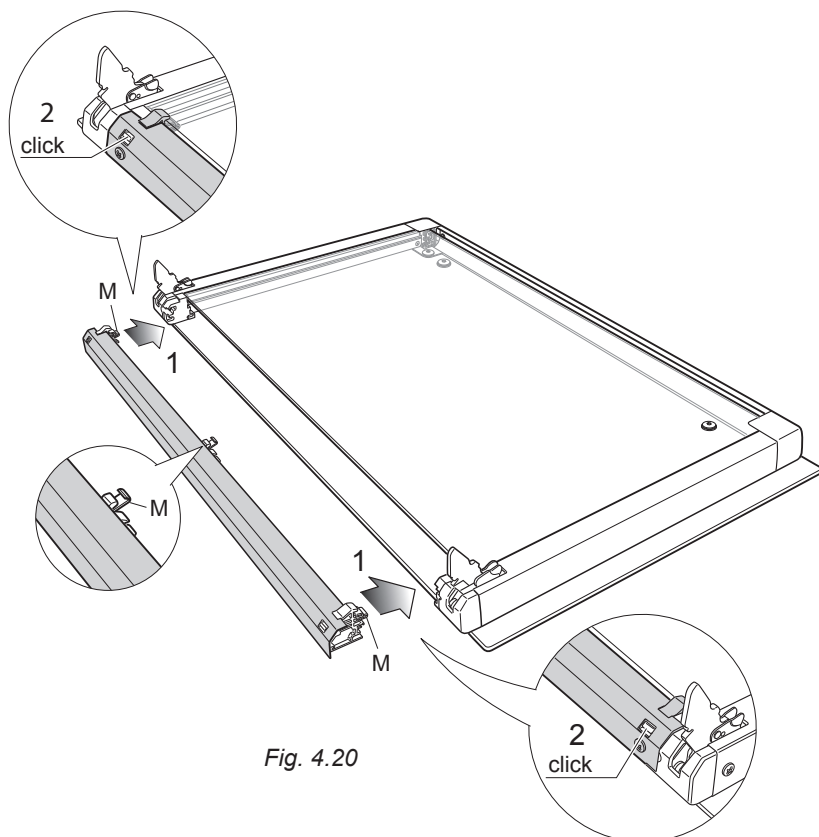

Fig. 4.20
1. Position the glass retainer, as shown in the figure 4.20. It should sit on the bottom edge of the outer glass. Check that the clamps "M" are not deformed or damaged.